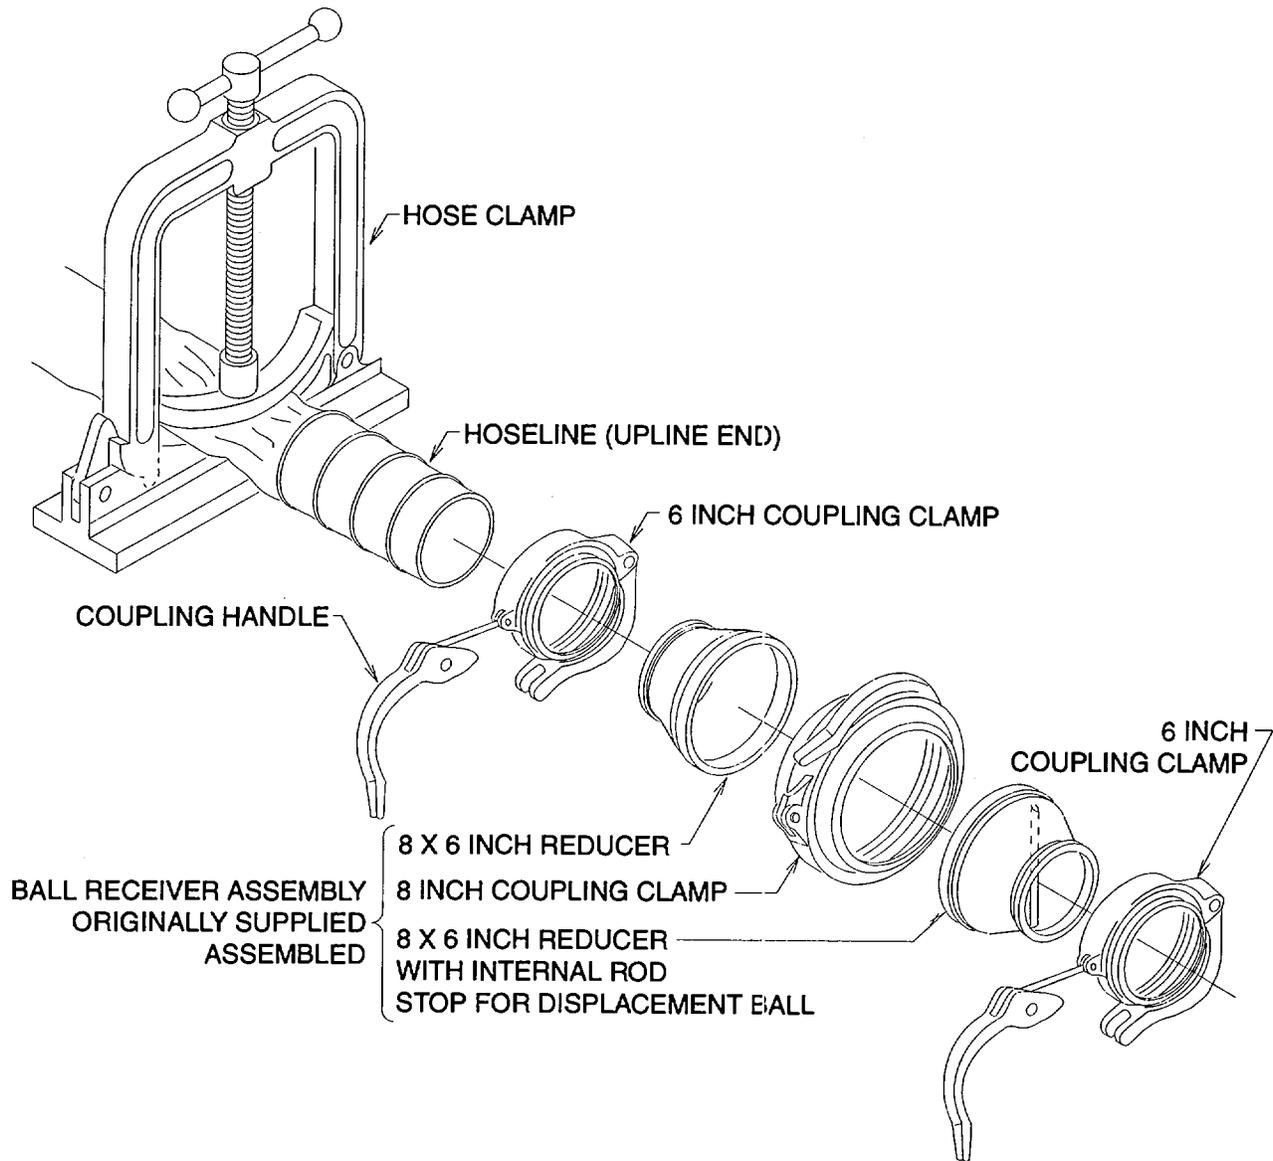

Figure 4-29. Evacuation Process View 2
- 2 After the fuel vapors have been removed, install an airtight cap on the open end of the hose. (See figure 4-29.) If you do not have a cap, you can seal the hose by bending it back on itself several times and tying the hose securely.